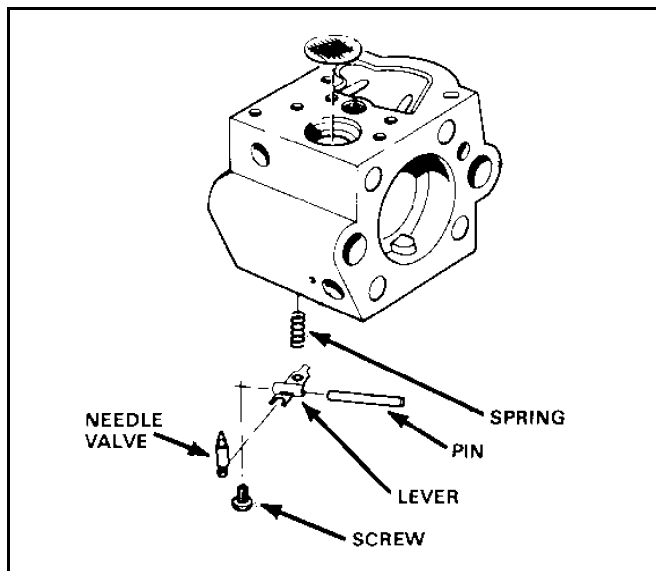

Figure 208
5. Remove the metering lever pin screw and the inlet needle valve, metering spring, metering lever, and metering lever pin (Figure 208).